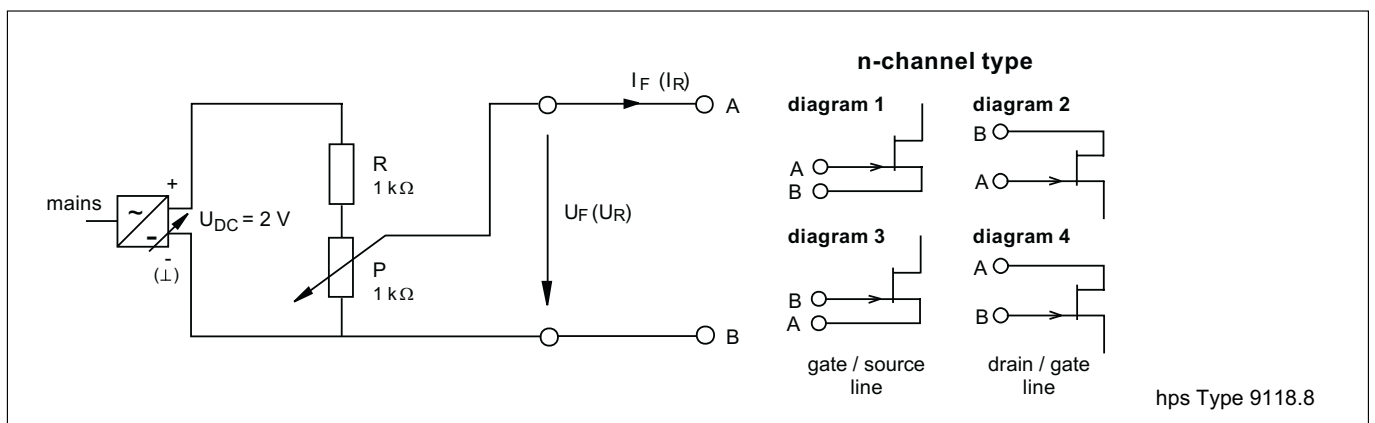

Fig. 5.1.2.1
- Set up the circuit according to Fig. 5.1.2.1 (diagram 1) and use the multimeter to determine whether the p-n junction is conducting or blocked. Repeat the measurement (diagrams 2, 3 and 4). Enter the results (conducting/blocked) in Table 5.1.2.1.